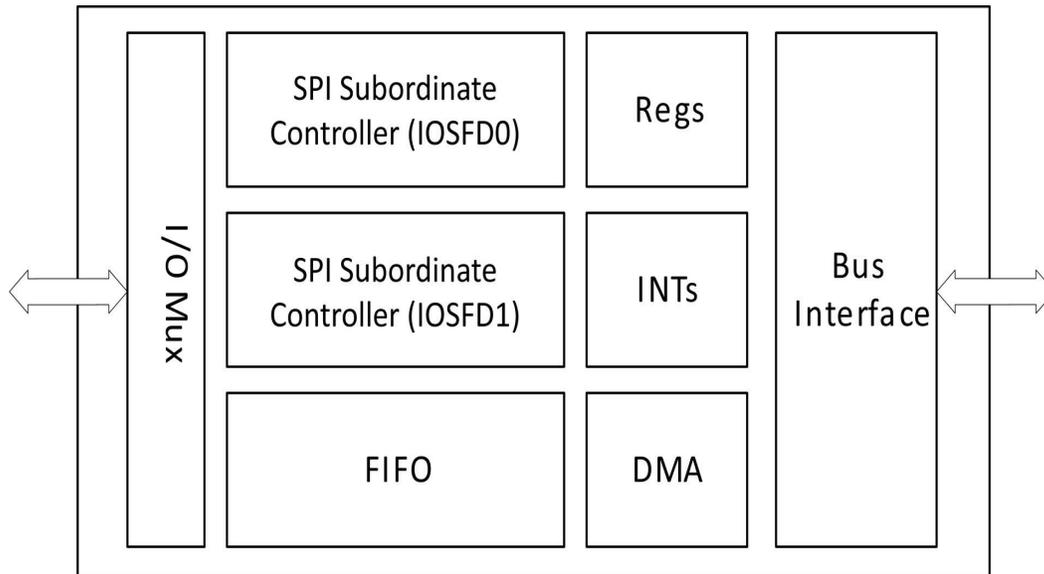

Figure 33. Full Duplex IOS SPI Subordinate Controller Pair (IOSFD0 / IOSFD1)
The Apollo510 SoC includes two instances of the Full Duplex SPI Subordinate and both instances are designed to work in tandem to enable full duplex (FD) operation. Features of the controller pair are shown in Figure 33 and listed below.